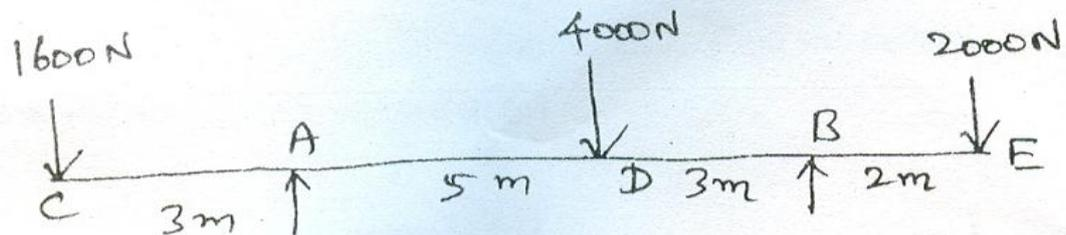

Fig. Q. 12(a)
72. Find the deflection at B and C for the cantilever loaded as shown in Fig. Q. 12 (a) using the principle of virtual work method. Take  $EI = 30000 \text{ kNm}^2$  (16)